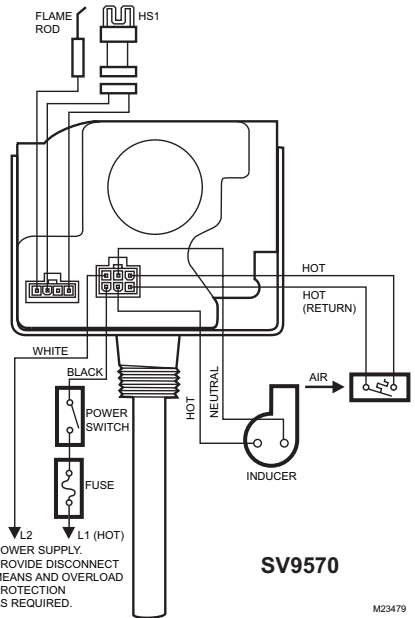

Fig. 7. SV9570 typical wiring connections.
5. Connect control circuit to the water heater control using the keyed connector. See Fig. 7.